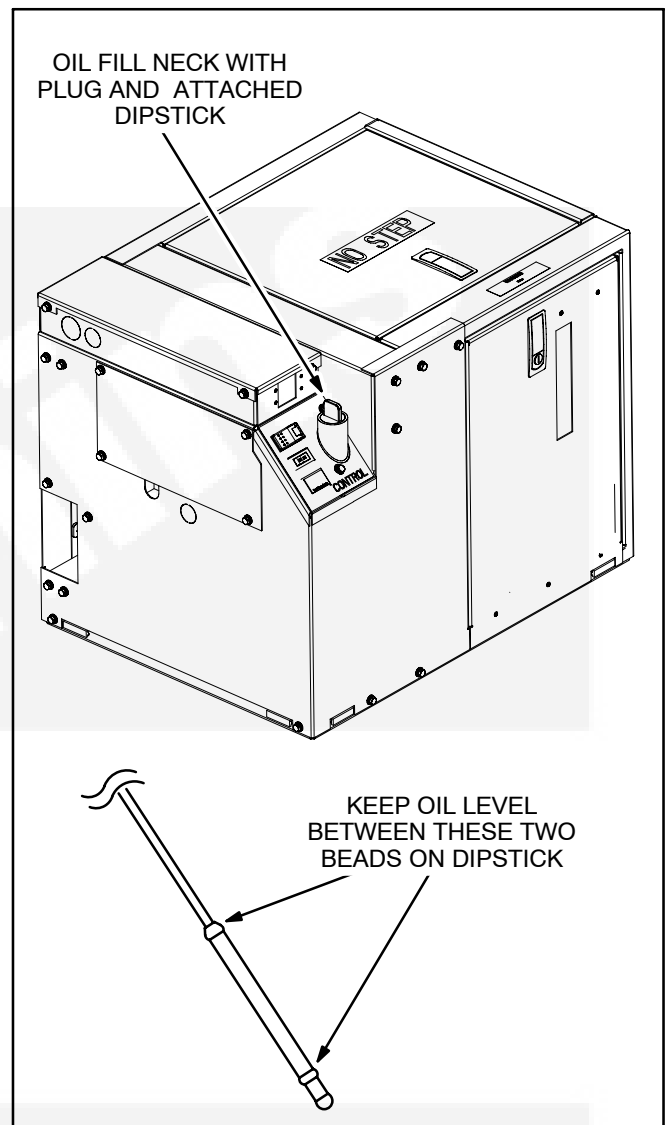

FIGURE 4-1. OIL FILL NECK AND DIPSTICK
1. Pull the plug and dipstick out of the oil fill neck (Figure 4-1). The plug may be difficult to pull straight out. It is easier if you tilt the plug in its socket while pulling out. Wipe off the dipstick and thread it back into the fill neck and seat the plug, which snaps into its socket. Remove the plug and dipstick again and check the oil level on the dip stick.
2. Remove the oil fill plug (Figure 4-1), open the front access door and drain the engine oil into a container by opening the drain valve (Figure 4-2). (The drain valve has a 3/8 NPT outlet for connecting a hose fitting to facilitate oil draining.) If an oil pump-out system is installed, follow the instructions provided.